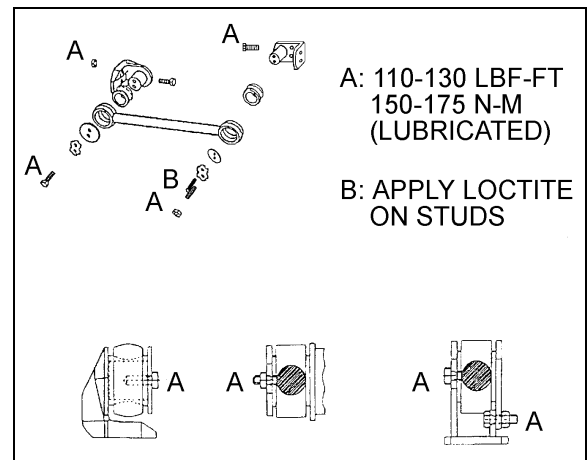

FIGURE 9: RADIUS ROD INSTALLATION 16028
- Lightly spray the radius rod support with water. Place the radius rod end over the radius rod support (Fig. 9).